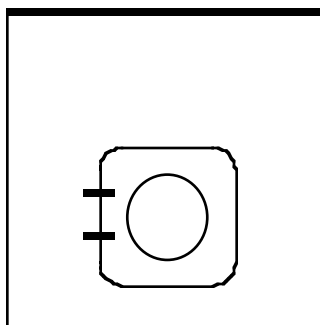

Figure 10-1
- ☐ Set the top cover *upside-down* in front of you, with the back edge facing away. Place the speaker over its holes, with the lugs to the *left*. (Figure 10-1).